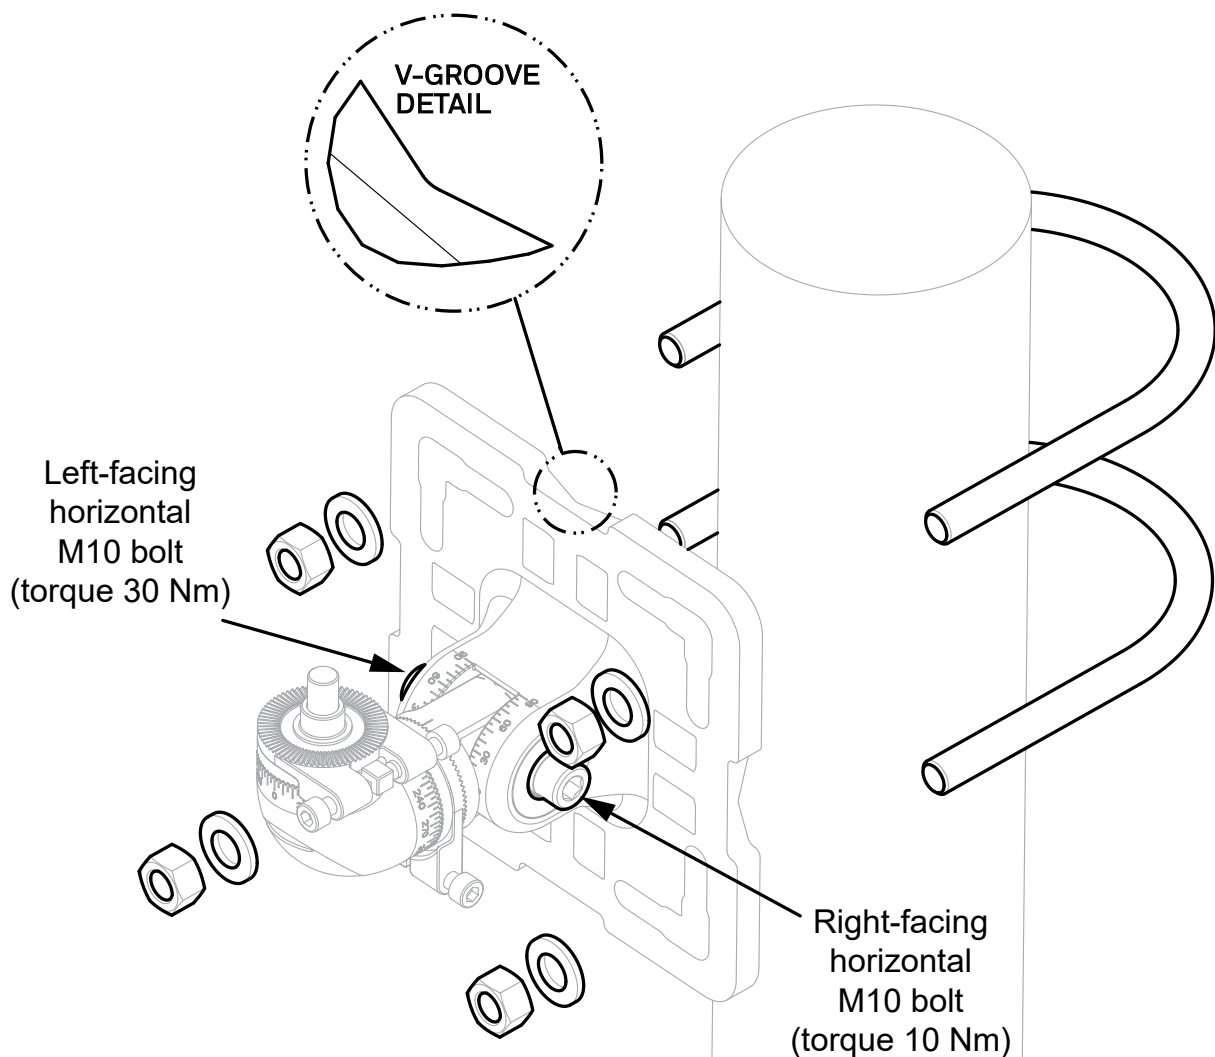

Figure 10. Universal Mounting Bracket fitment to pole with U-bolts
2. Remove the bolt cover plate (Figure 10).